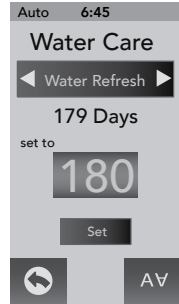
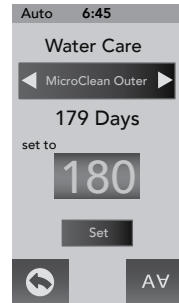
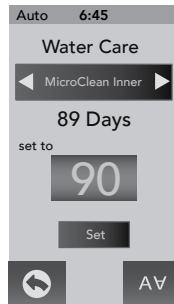

Figure 12.7d
Figure 12.7e
Figure 12.7f
1. From the “Water Care” Menu you can to set the “Water Refresh” timer, Figure 12.7d.
A programmable filter timer can be set to remind you when to clean or replace the MicroClean Outer Filter. Tap ► (Figure 12.7d) until you reach the “MicroClean Outer” tab to enter the Programming Menu (Figure 12.7e).
1. From the “Water Care” Menu you can to set the MicroClean Outer timer, Figure 12.7e.
A programmable filter timer can be set to remind you when to replace the MicroClean Inner Filter. Tap ▶ (Figure 12.7e) until you reach the “MicroClean Inner” tab to enter the Programming Menu, Figure 12.7f.
1. From the “Water Care” Menu you can set the MicroClean Inner timer, Figure 12.7f.